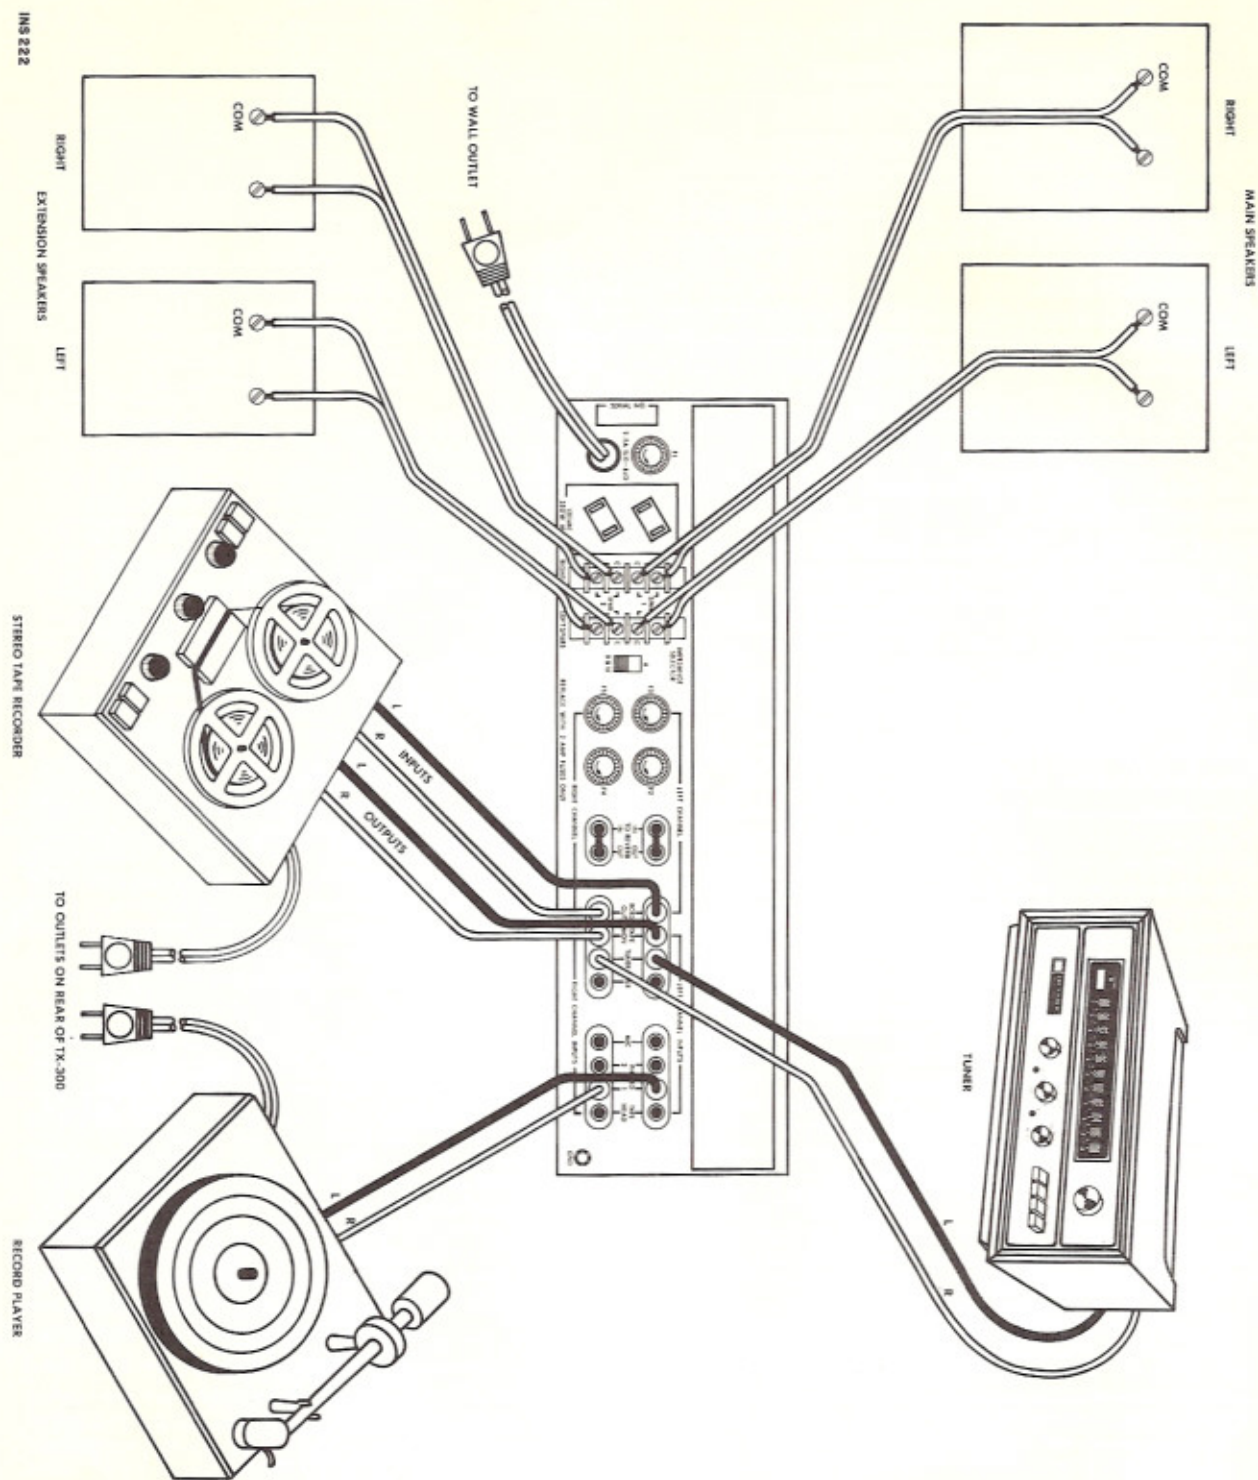

Figure 1. Component connections to the TX-300
ONE SPEAKER: If you are using only one speaker, it should be connected to the SPKR 1 terminals on the terminal strip marked LEFT SPKRS (see Figure 1). Next, set the switch marked IMPEDANCE SELECTOR, which is used to match the output impedance of the TX-300 to that of your speaker. For speakers with a 4-ohm impedance, slide the switch to the upper (4) position. If the speaker has an 8- or 16-ohm impedance, slide it to the lower (8 & 16) position. If you are unsure of your speaker's impedance, slide the Impedance Selector to position 4. The Balance control should be turned to the maximum *counterclockwise* position until a speaker is attached to the RIGHT SPKRS output terminals. If only one speaker is used, the Mode switch should always be in the MONO position. This will combine the signals from the left and right channels of stereo program sources into a full monophonic signal. (If the Mode switch is set to STEREO or REVERSE, only the left channel will be heard if the source is stereophonic.)